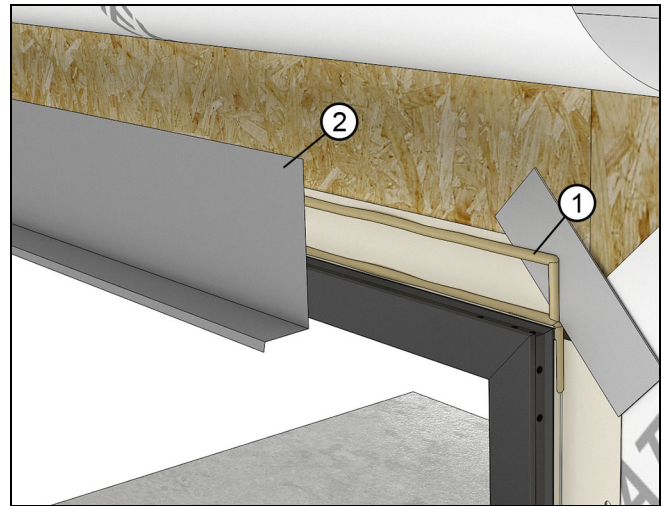

Figure 62
4. Install a rigid head flash (supplied by others). Apply sealant to all surfaces that will come in contact with the flashing. Flashing should extend past the window frame by at least 1/8" (3) on each side. See Figure 62.